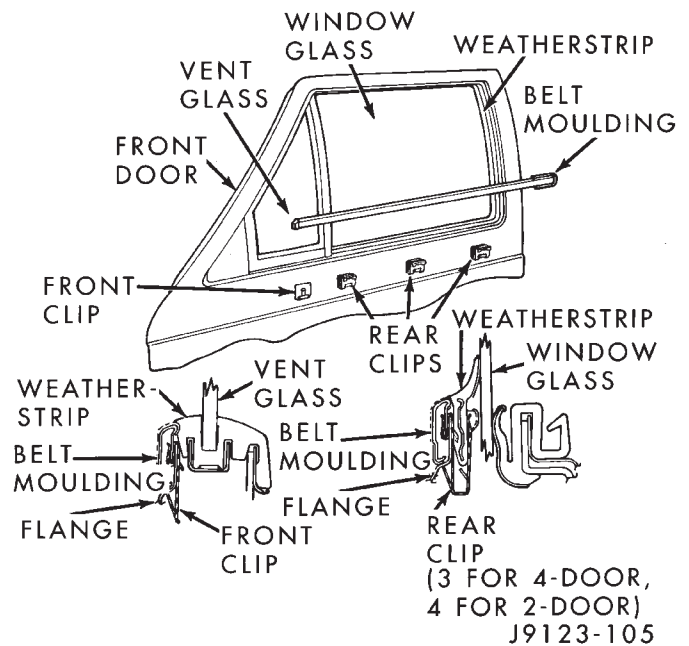

Fig. 48 Front Door Beltline Moulding and Weatherstrip Seals
- (1) Remove the door trim panel and waterdam.
- (2) Remove the window glass channel hardware, beltline moulding and weatherstrip seals (Figs. 48 and 49).